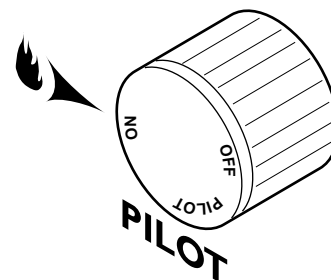

Figure 45 - On Position
Depress and turn the knob counterclockwise  to the “ON” position. See *Figure 45*. It will take less than four (4) seconds for the burner to ignite.
The flames from the pilot should be visually checked as soon as the heater is installed and periodically during normal operation. **The pilot flame must always be present when the fireplace is in operation.** See Figure 45. The pilot flame has three distinct flames, one engulfing the thermopile, one engulfing the thermocouple, and the other reaching to the main burner.